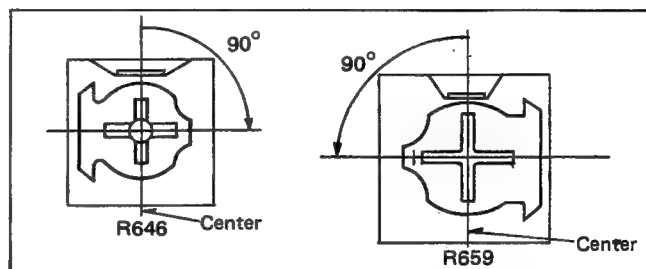

Fig. 36
- 3) Adjust R-Y Gain (R646) and B-Y (R659) controls shown in Fig. 36.